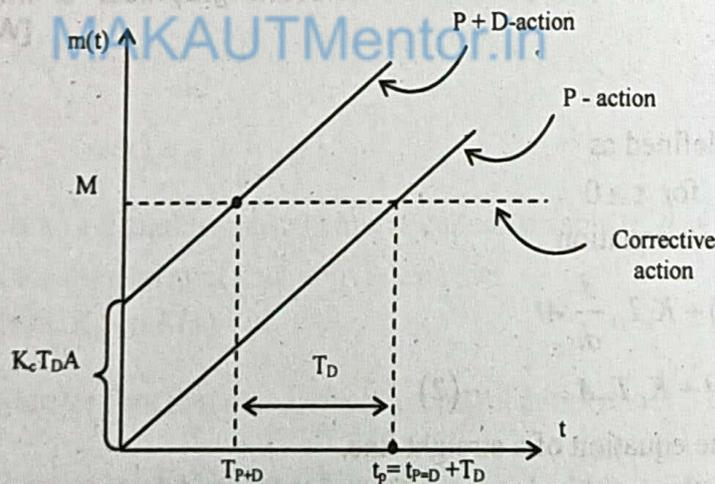

Fig: 1c Relative patterns of P and P+D actions against the control action
- 3) Fig: 1c says that a  $P+D$  control action provides a corrective action  $T_d$  time earlier than the  $P$ -action, intended for the same response. Thus Derivative control anticipates the actuating errors and initiates an early corrective action thus providing faster response and with increased stability of the system.